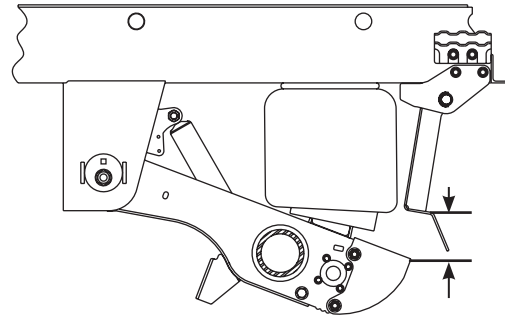

Figure 4: Ride height set too high
Any increase above the specified maximum ride height can reduce the effectiveness of SURELOK to limit trailer drop and/or walk. See Figure 4. Conversely, any ride height set below the specified minimum ride height
- A. If ride height is set **above specified maximum** value (Figure 4), The trailer has the potential to exhibit excessive "walk" and/or drop before the SURELOK support arms can contact the beam and maintain trailer height.